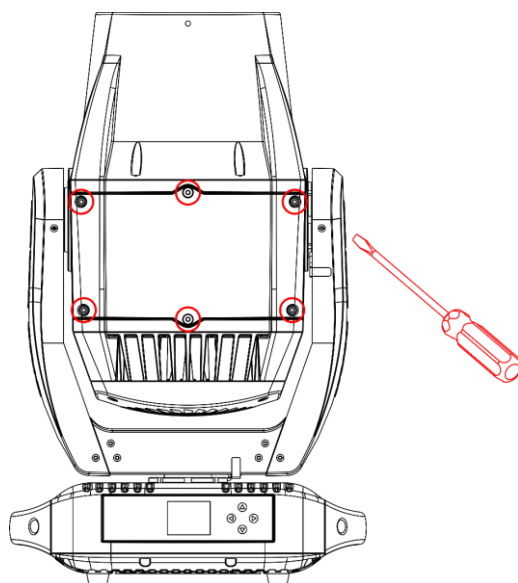

Fig. 14
- 04) Loosen the 6 screws on the head cover, as shown on Fig. 14.